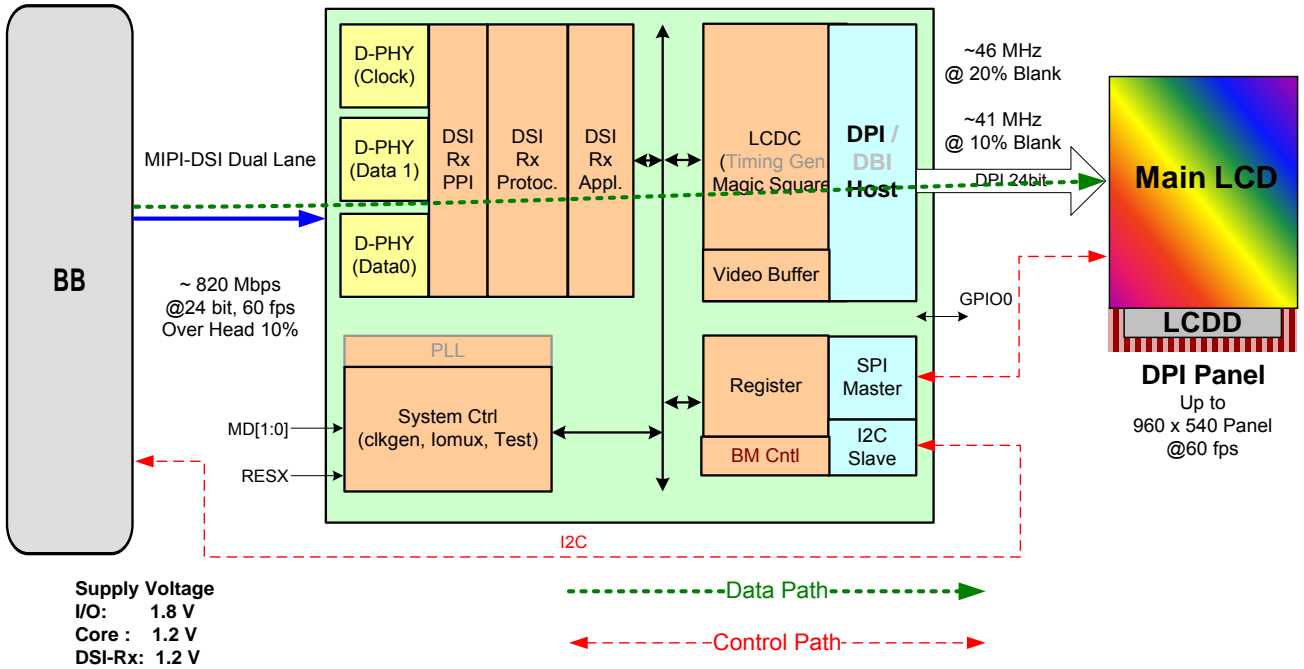

Figure 1.1 TC358762XBG in System Application – Output with DPI and SPI Master
1. Configuration 1, Figure 1.1: